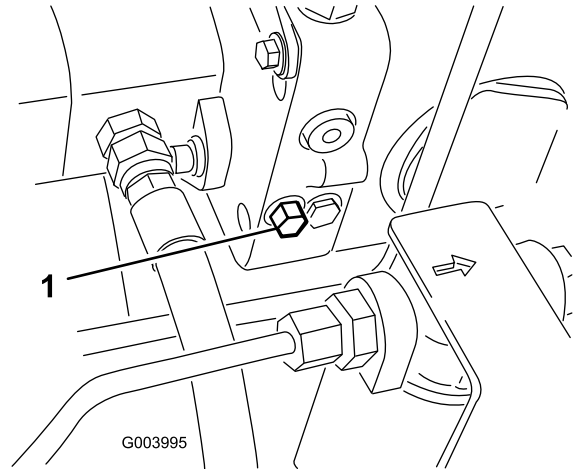

Figure 72
1. Rotate the bypass-valve bolt 1-1/2 turns to open and allow oil to bypass internally (Figure 72).